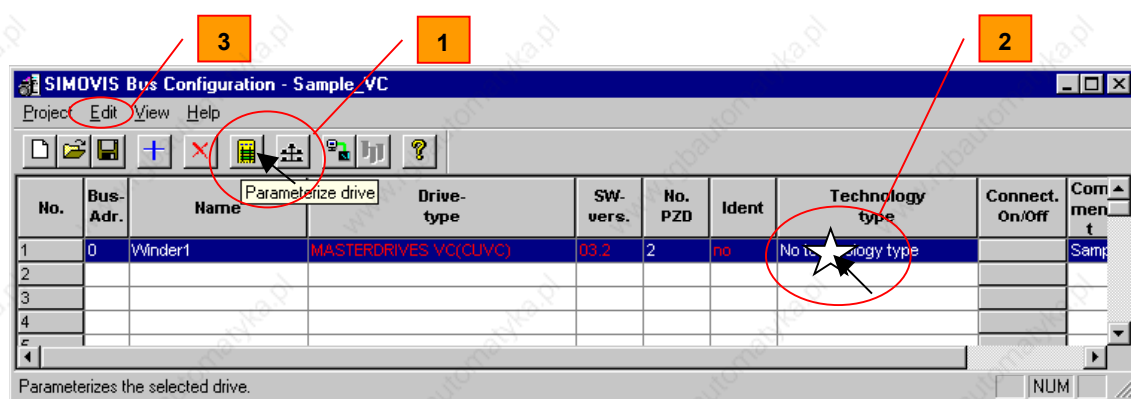

Fig. 5-21 Parameterizing a device
- ◆ Double-click on the device to be parameterized (Fig. 5-21 [2])
- ◆ Call-up on the toolbar *Parameterize drive* (Fig. 5-21 [1])
- ◆ Call-up with the menu command *Edit → Parameterize drive* (Fig. 5-21 [3])